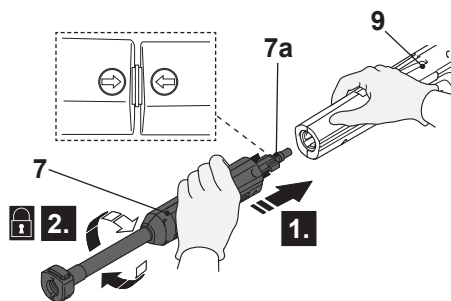

Fig. 3
1. Align and insert the tongues (7a) of the extension lance (7) into the grooves of the spray gun (9) connection port. (Fig. 3, step 1).
2. Securely fit the extension lance (7) by turning it clockwise to lock it in place (step 2). Ensure the arrow on the spray gun aligns with the arrow on the extension lance.